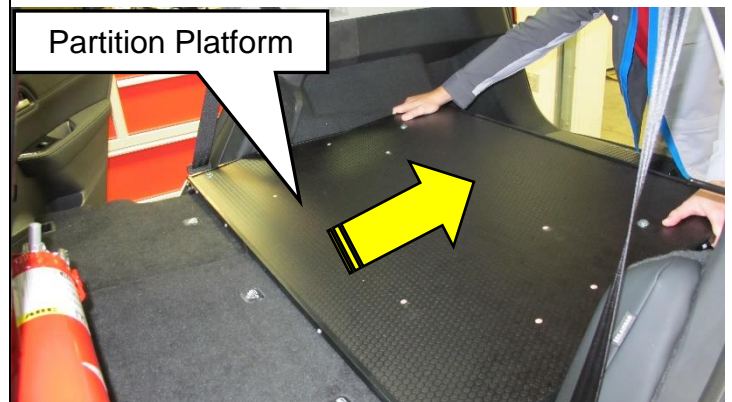

Figure 13
- Remove the partition platform out the rear of the vehicle through the rear door opening (Figure 13)